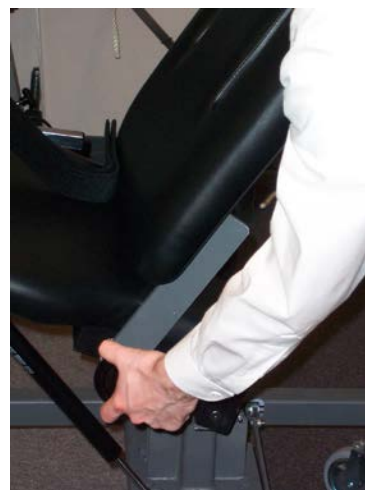

Figure 8n
- The large black knobs on either side (Figure 8n) allow you to change the depth of the chair.